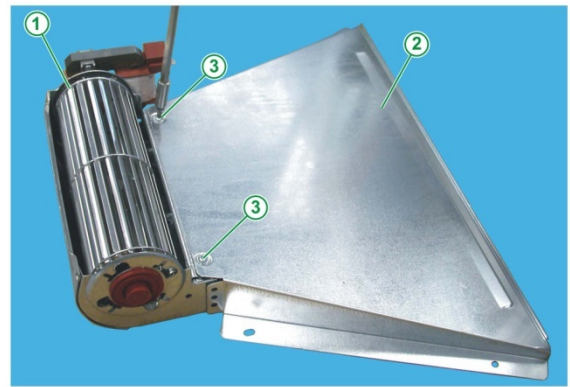

Fig. 13
15. Fit the new motor fan on the new conveyor channel using 4 4.2x8mm self-tapping screws (see Fig. 13, 14 and 15).